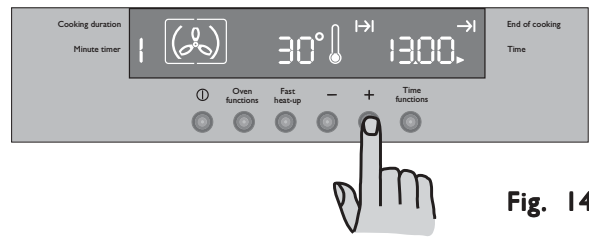

Fig. 14
- 2) Press button Time functions until the "End of Cooking" function → is selected and the relevant symbol flashes. The control panel will display the end of cooking time (that is, the actual time + cooking duration time - Fig. 14).